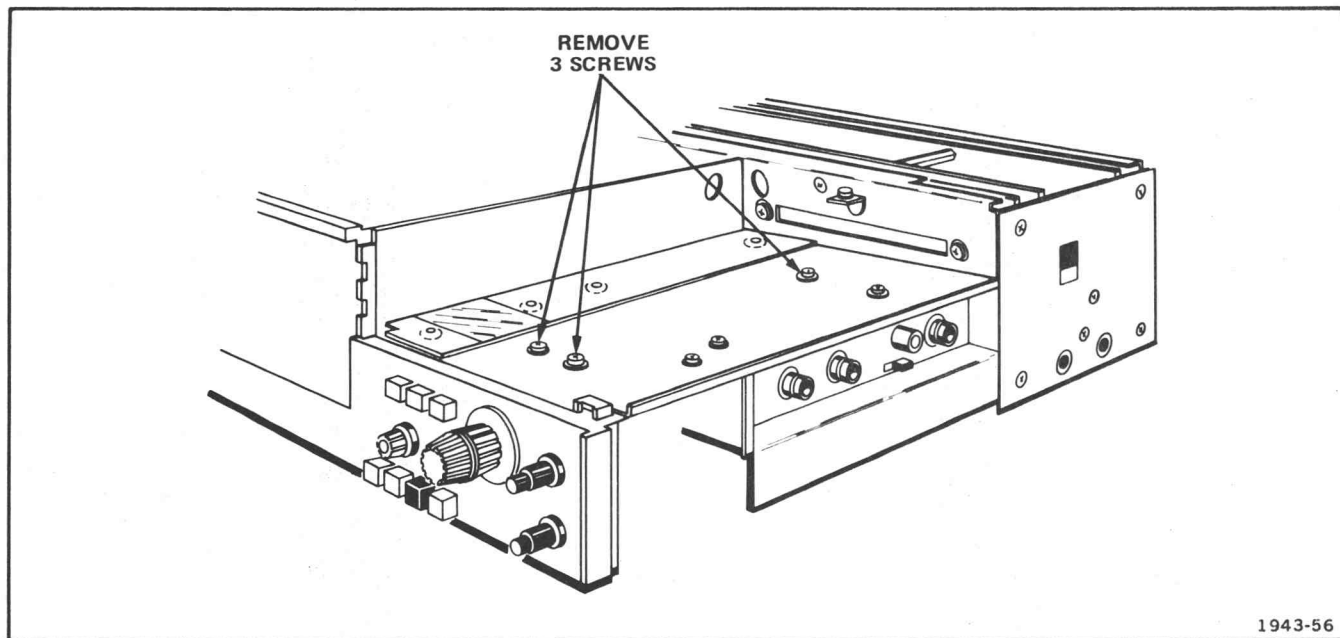

Fig 4-9
3. Remove three screws (see Fig. 4-9).